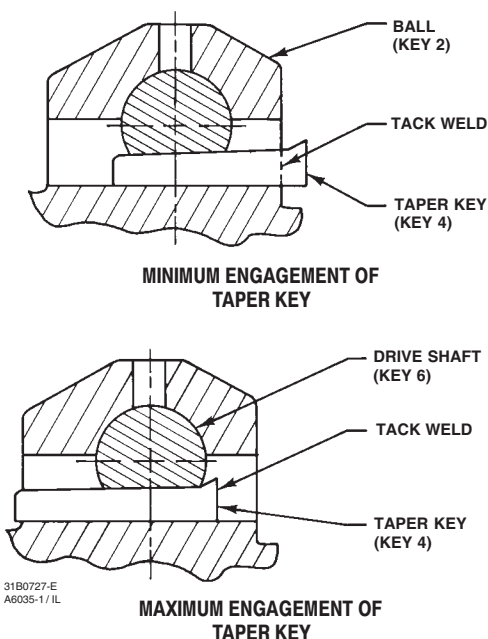

Figure 14. Taper Key Installation
1. A taper key (key 4, figures 14, 24, 25 and 31) is used to connect the ball and drive shaft in 3-through 12-inch valves.
3. Working from the small end of the groove pin (key 7), use a pin punch to drive the groove pin out of the ball ear and follower shaft.
4. Locate the small end of the taper key (key 4, see figures 14, 24, 25 and 31). Using a pin punch on the smaller end of the taper key, drive it out of the ball (key 2) and drive shaft (key 6). Note: driving the taper key in the wrong direction will tighten it.
5. Pull the drive shaft (key 6) out of the actuator side of the valve body.
- Insert the drive shaft into the valve body bearing (key 10), and into the ball ear. Align the hole in the drive shaft with the holes in the ball.
- Insert the taper key into the ball and drive shaft as shown in figure 14.
figure 14) to be tack welded in place **after properly seating**, using the following procedure. Use standard welding preparations when preparing parts for reassembly.
**Make sure the drive shaft (key 6) is free of oil or grease, otherwise the taper key will not seat properly. Failure to properly set the taper pin or taper key could result in it coming loose while in service. Loosening of the taper key in service could result in improper valve function and equipment damage.**
- Install the drive shaft (key 6) into the valve body through the ball and into the lower bearing.
- Insert the taper key (key 4) into ball and drive shaft (keys 2 and 6) as shown in figure 14. The taper key inserts, with the flat side of the key, facing the drive shaft (key 6).
- Using a flat end punch, drive the groove pin (key 7) into the ball ear and follower shaft until it is flat with the ball ear surface. Stake both ends of the pin hole with a center punch to ensure the groove pin does not come out.
- Using a flat end punch, drive the taper key (key 4) into the ball ear and drive shaft (key 6) until solid, heavy contact is obtained between the key and shaft.
- Locate the small end of the taper key (key 4, figure 14). Using a pin punch on the smaller end of the taper key, drive it out of the ball (key 2) and drive shaft (key 6). Note: driving the taper key in the wrong direction will tighten it.